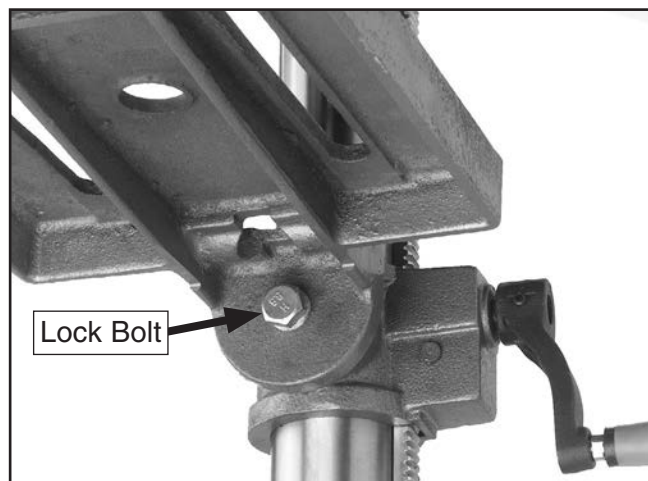

Figure 30. Table tilt lock bolt for angle adjustment (G7945).
2. Loosen the lock bolt (**Figure 30**) using the included wrench and tilt the table (G7945) or the column support arm (G7946) to the desired angle.